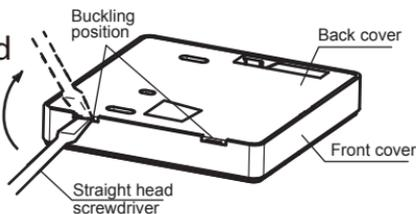

Fig 3-2
- Insert a slot screwdriver into the slots in the lower part of the wired controller (2 places), and remove the upper part of the wired controller. (Fig.3-2)